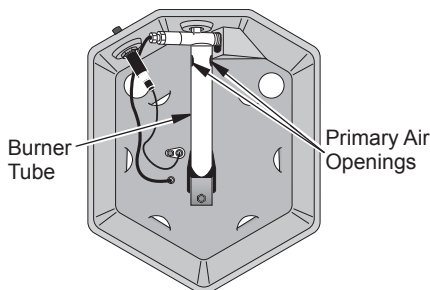

Figure 4 - Bottom View of Heater
To check for correct burner flame, look through the ventilation holes in the top of the heater to see the burner flame. The burner flame should be mostly blue with slight yellow coloring on the ends. If the burner flame is mostly yellow, the primary air openings on the burner tube under the heater base may be blocked (see Figure 4).
2. Turn heater over to locate the primary air openings on the burner tube (see Figure 4). Remove any debris blocking the primary air openings.